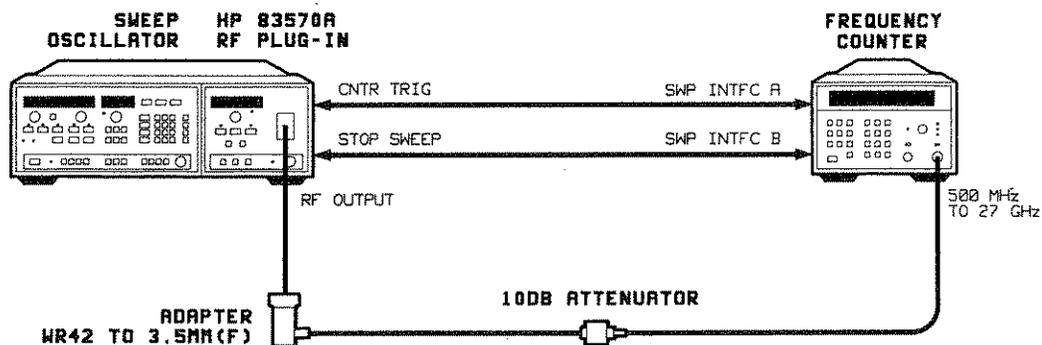

Figure 4-1. Frequency Range and CW Accuracy Test Setup
1. Connect the equipment as shown in Figure 4-1 and press **[INSTR PRESET]** on the HP 8350/83570A. Allow at least one hour warm-up. Note that the sweep oscillator display indicates a start frequency of 18.0 GHz and a stop frequency of 26.5 GHz.